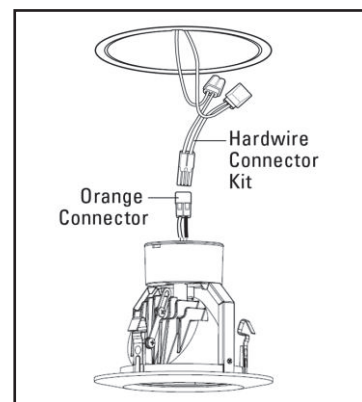

Figure 1
3. Remove the socket adapter from the box. Cut both adapter wires close to the socket adapter and away from the orange connector, and discard the socket. Remove the (2) red splice-connectors from the hardwire kit bag. Pair the housing and orange connector wires by color into each red connector. Firmly squeeze the metal U-shaped insert into the wires. Flip the cover closed to secure and insulate the connection. (See Figure 1)